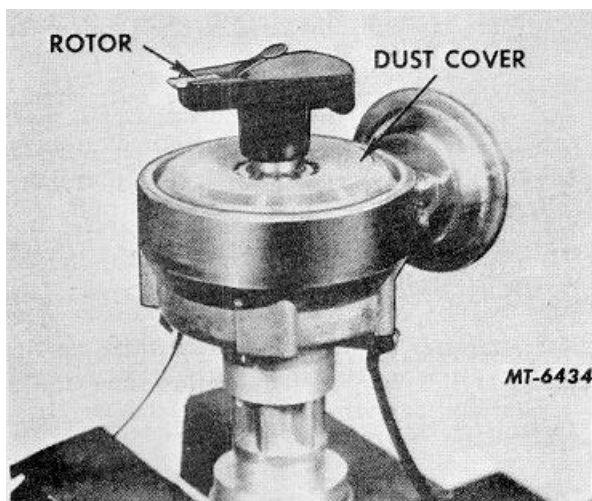

Fig. 14 Distributor Rotor and Dust Cover
1. Remove rotor and dust cover (Fig. 14).